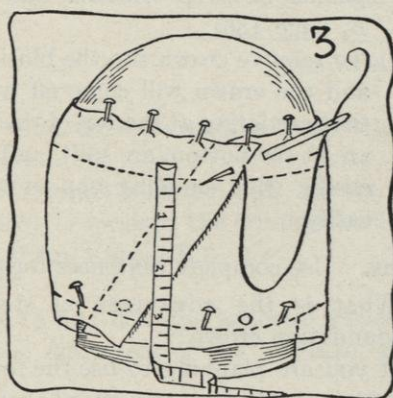

FIG. 3.
- (8) Show your work to your teacher at this point.
- (9) As soon as she approves, backstitch side crown to tip, an even distance from the bottom edge of the crown block (see Figure 3).
- (10) Cut off any extra crinoline that extends above the stitching.
- (11) Press so that no rough edges of the crinoline project. Dampen, if necessary.
- (12) Put a pencil mark on this crinoline at direct front, back, and sides of crown, and at the bottom edge of the crown block.
- (13) Remove from block, as shown in Sections 6 and 7 of Job 39 (pages 156 and 157).
- (14) Skip over to the questions, unless you are to steam a two-piece foundation crown on a block that is larger at the tip than at the headsize.